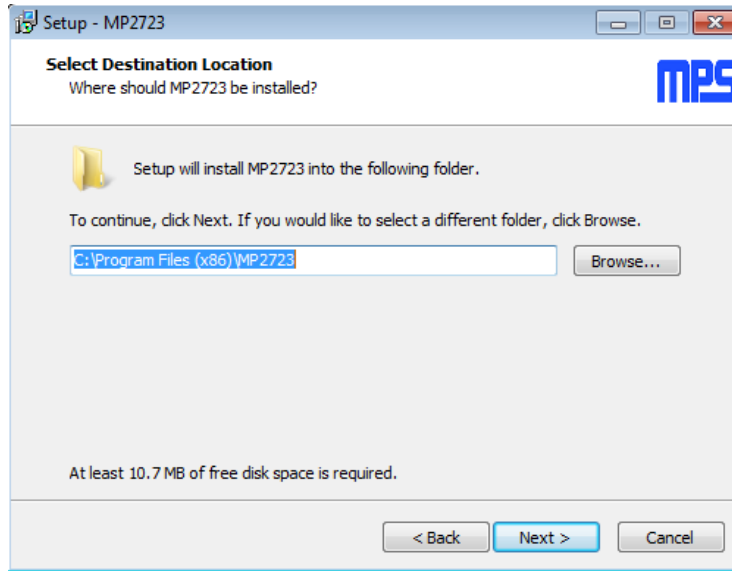

Figure 4: MPS I2C GUI Set-Up Guide
2. Double-click the .exe file to open the software (see Figure 4). If a protection window comes up, click “More info,” then click “Run anyway.”